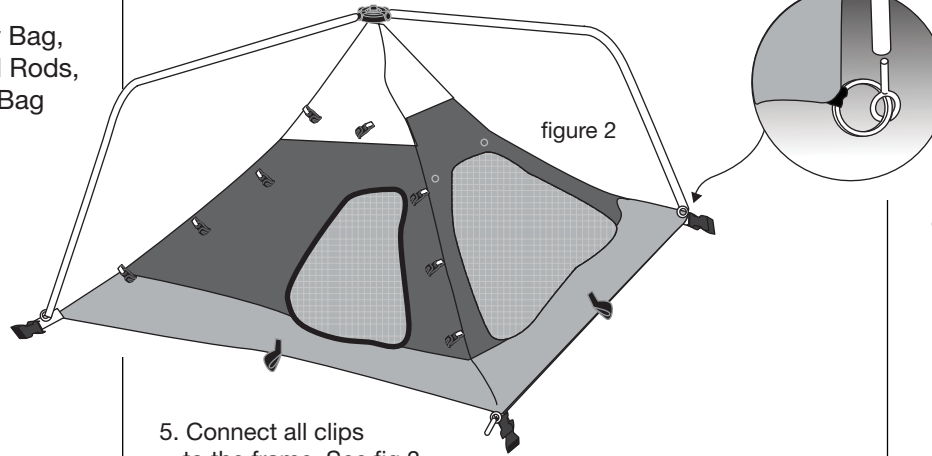

figure 2
3. Follow the seam from the spider, down to the corner of the tent. Make sure that the spider is properly oriented, then insert the pin on the corner ring into the other end of the pole. See fig.2.
4. Insert the next pole into the opposite hole on the spider. Carefully tension this assembly by placing the corner pin in the other end of this pole. See fig.2.